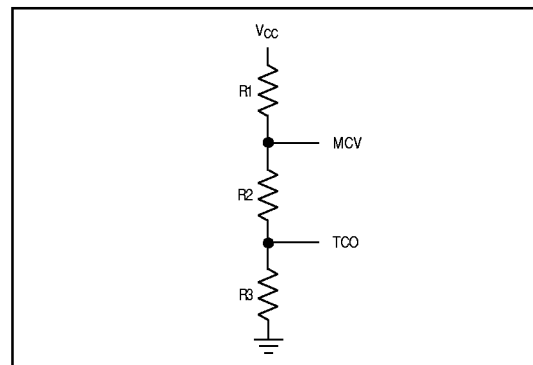
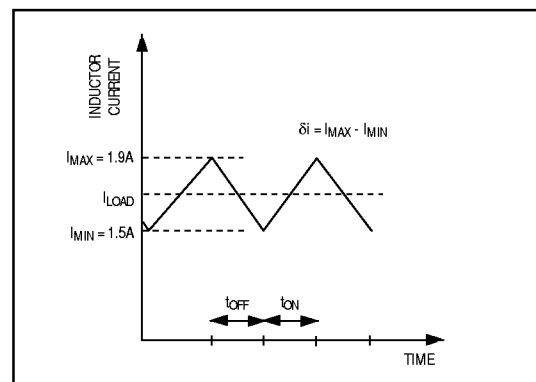

Figure 9. Resistor Configuration for MCV and TCO
Figure 10. Inductor-Current Waveform in Continuous-Conduction Mode
7) Select Maximum Cell Voltage (MCV) and Temperature Cutoff (TCO). The MCV and TCO can be selected with a resistor-divider combination (Figure 9). In our example, TCO has been set to +10°C, which corresponds to a voltage of 1.72V at the TS pin. The MCV for most fast-charge batteries can be set to about 1.9V. To minimize the current load on V_{CC} , choose $R1$ in the range of 20k Ω to 200k Ω . In this example, choose $R1 = 60.4k\Omega$, then calculate $R3$ and $R2$ as follows:
In order to provide high currents with minimum ripple, the device must function in the continuous-conduction mode. Figure 10 shows a current waveform of an inductor in the continuous-conduction mode (where the coil current never falls to zero).
The average load current (I_{LOAD}) through the inductor must be 1.7A, so a peak current (I_{MAX}) of 1.9A should give a fairly low ripple while keeping the inductor size minimal. This means that the total current change (Figure 10) across the inductor is $\Delta I = 2(1.9 - 1.7) = 0.4A$.
The MAX2003/MAX2003A can use several other circuits to charge batteries. Figure 9 shows a circuit that uses a Darlington transistor to regulate the current a six-cell NiCd battery pack receives. Figure 10 shows a gated current-limited supply being used to charge a Duracell NiMH battery pack. Table 6 lists the external components used in these two application configurations.